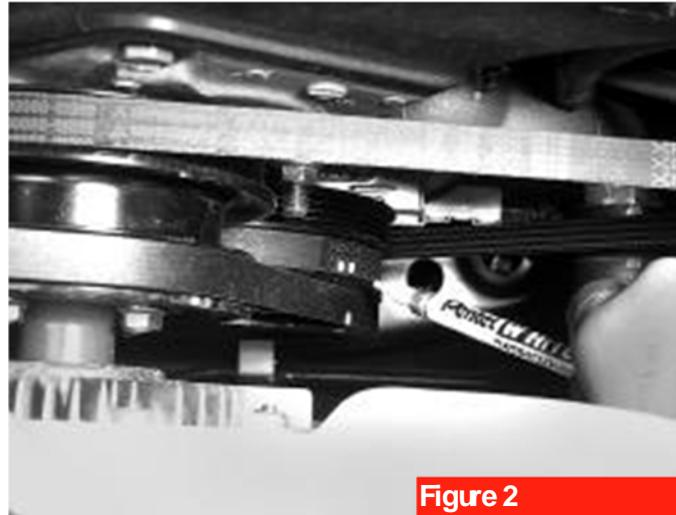

Figure 2
2. With tape or a permanent marker, mark the forward edge of the power steering and the air conditioning compressor drive belts (figure 2). This will ensure that the belts will be returned to their original positions and that they will rotate in the same direction. If you reverse the direction of rotation, it may cause the belts to fray.
8. Install the power steering and A/C belts according to the marks you made before removal (see section 2, figure 2, page 2).